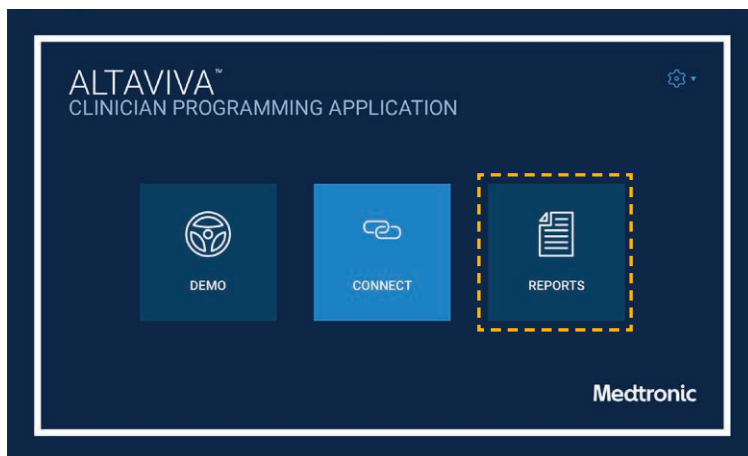

Figure 44. Reports button
1. From the startup screen, tap **REPORTS** (Figure 44).